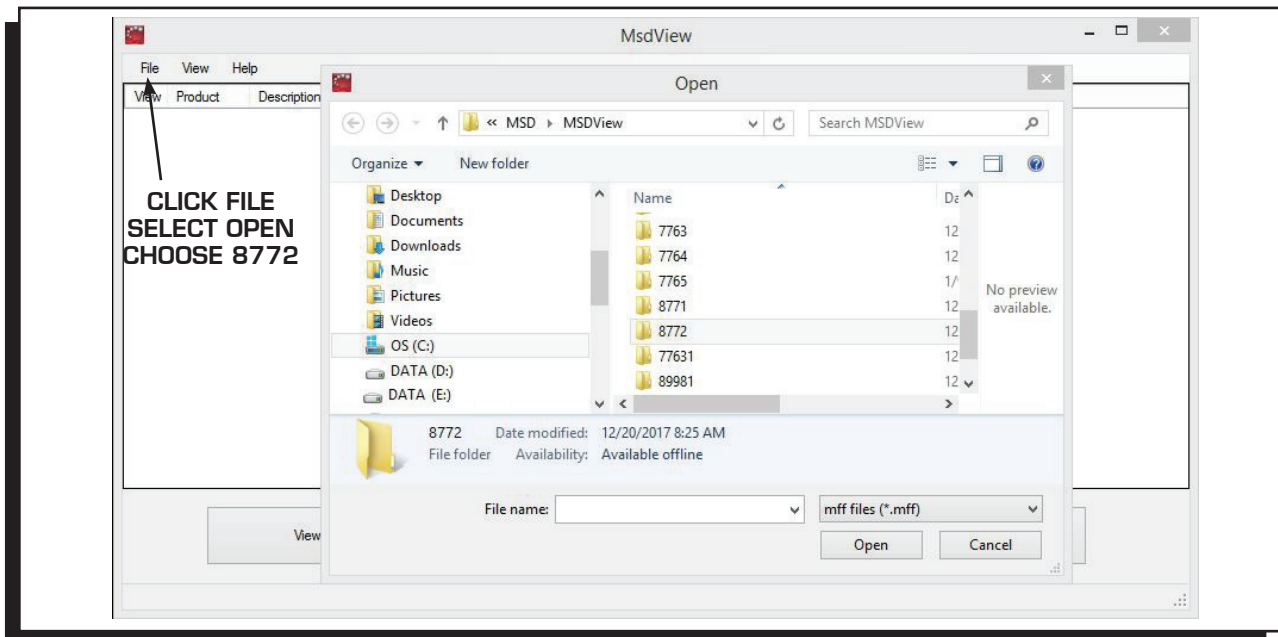

Figure 1 Open the View Program.
5. When the View Icon is selected, a window will open. Go to File, Open and scroll down to 8772. Double click to open the program (Figure 1).